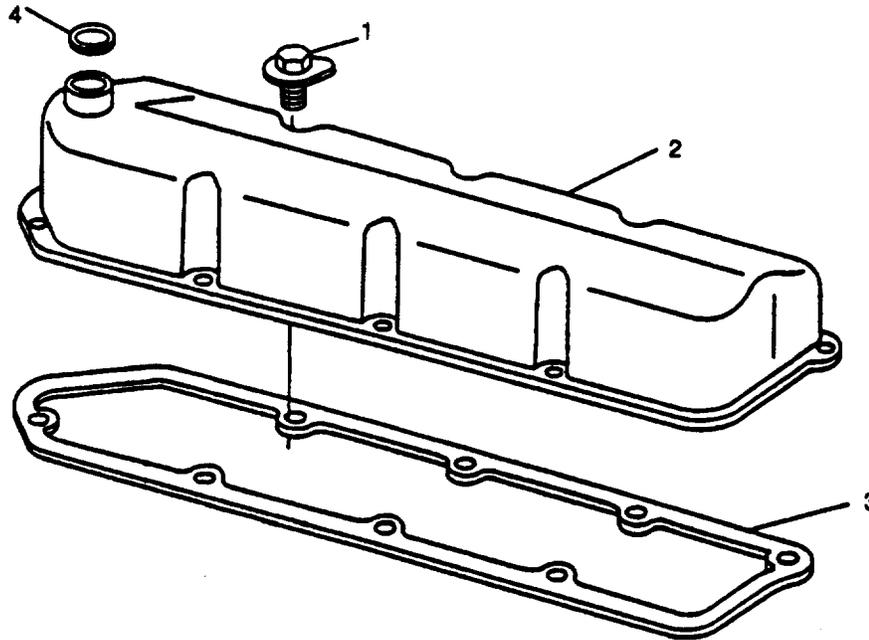

FIGURE 3-94. Valve Cover
- a. Remove eight bolts (1, FIGURE 3-94) securing valve cover (2); remove valve cover (2) and gasket (3). Discard gasket (3).
- b. Remove preformed packing (4). Discard packing (4).
**Install gasket (3, FIGURE 3-94) dry (no sealant).**
- a. Position new gasket (3, FIGURE 3-94) and valve cover (2) on cylinder head and secure with eight bolts (1). Tighten bolts to 7 ft-lbs (11 Nm).
- b. Install new preformed packing (4) in valve cover.